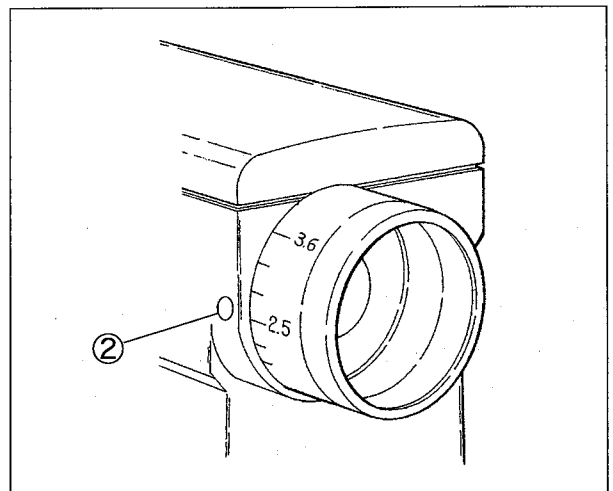

Fig. 5-11
- (1) Press the push button ① lightly, it will be felt that the button head touches the parts inside the machine.
- (2) Rotate the pulley while pressing the push button ①. At the point the push button goes far, press it again securely.
- (3) Under these conditions, align the desired graduation of the pulley with the hole ② on the machine arm. (Fig. 5-11)
- (4) Release the push button ①.